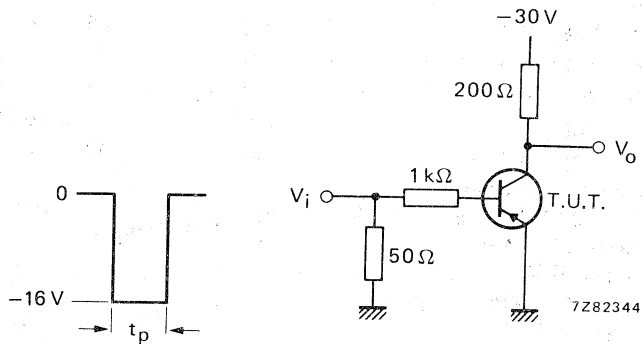
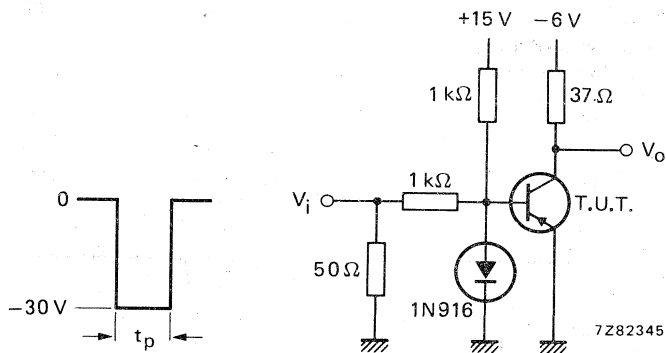

Fig. 3 Turn-on switching time test circuit.
Fig. 4 Turn-off switching time test circuit.
- I_C = 150 mA; -I_B = 15 mA; (see Fig. 3)
- to cut-off with +I_{BM} = 15 mA (see Fig. 4)
Fig. 3 and Fig. 4